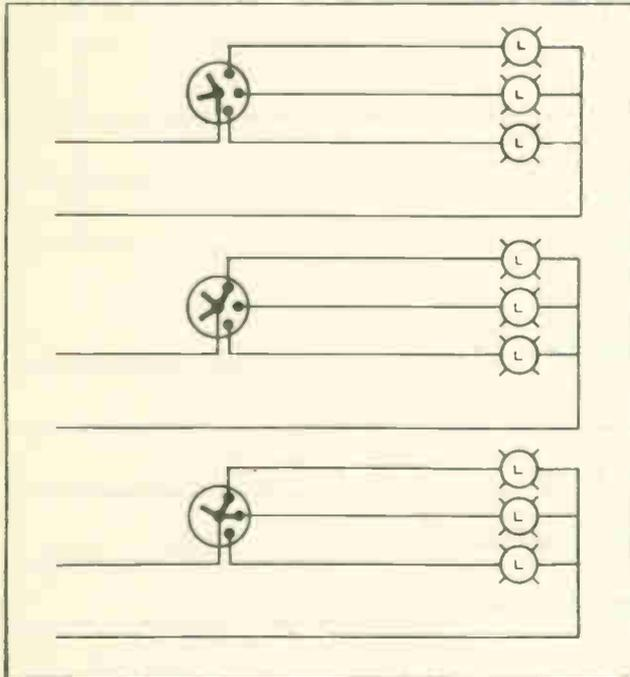
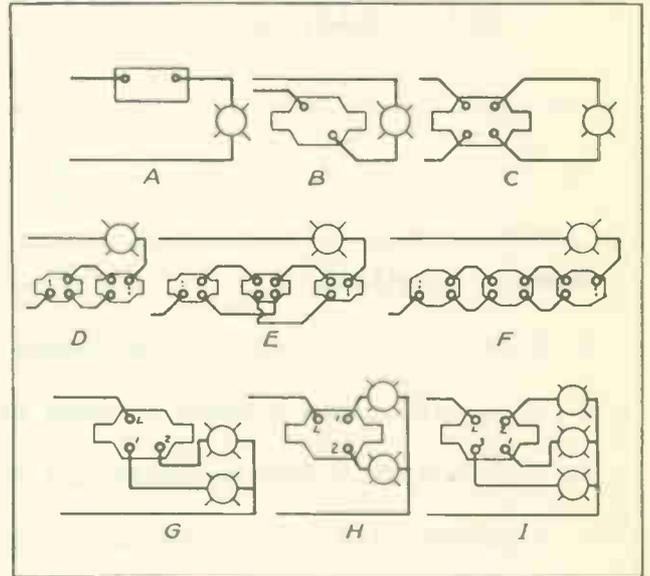

Fig. 6
Fig. 8
When two or more four-way switches are used together or in conjunction with a three-way switch, the dummies or travellers, (the two wires leaving the switch), are always connected to opposite terminals, never to adjacent terminals. Fig. 5. The foregoing statement applies to surface-type switches; with some flush-type switches it is unnecessary to cross the wires, because the cross over is made inside the switch, Figs 8, E and F.
3. Connections - Fig. 6 shows the manner in which an electrolier switch can be used to turn on one or more lights at a time. Push-button and toggle-type electroliers are shown in G, H, and I of Fig. 8.